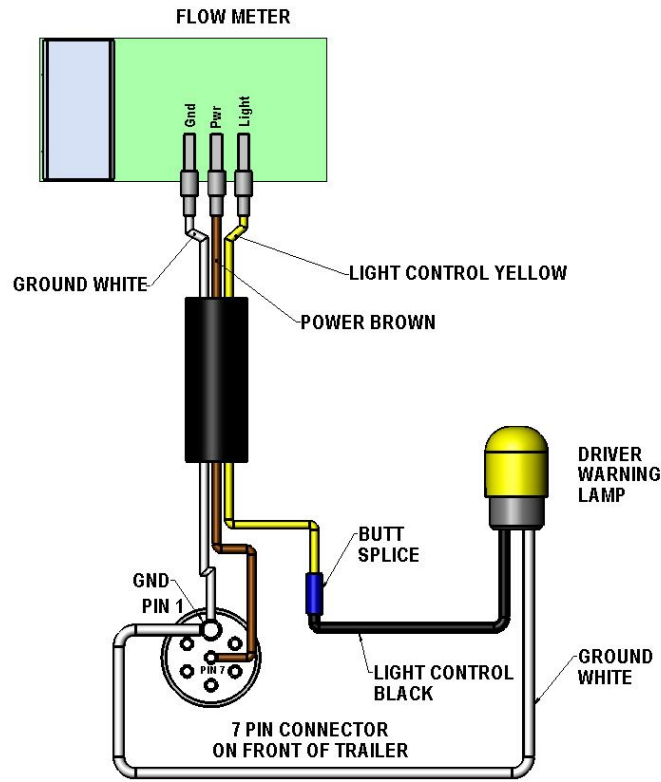

Figure 31
- Make sure to leave a loop at the bottom of the wires on the bottom of the control box. This keeps water from running down the cable to the electrical board inside the control box. See Figure 31